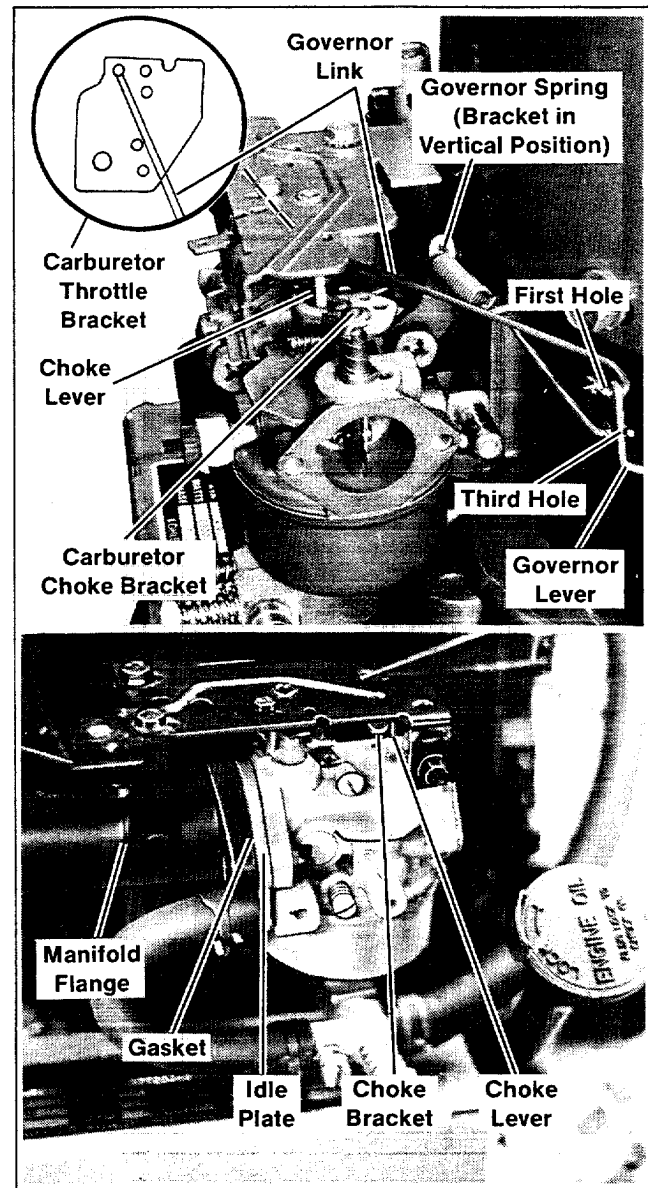

Figure 2. Mounting LP Gas Carburetor
1. Connect governor link to the carburetor throttle bracket hole designated in Figure 2. Position carburetor gasket (228079) and idle plate (228242) against manifold flange. Idle plate inlet should face intake manifold as shown. Place remaining carburetor gasket (228079) and carburetor assembly against idle plate. Position governor spring mounting